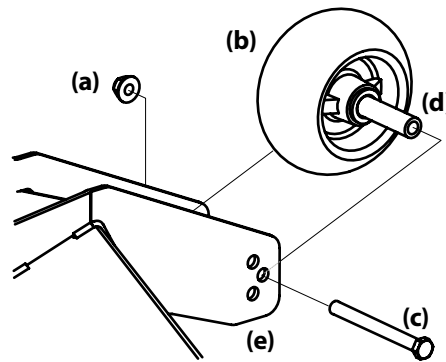

Figure 4-7
2. Remove the lock nut (a) securing one of the front gauge wheel (b) hex screws (c) to the deck. Remove the front gauge wheel (b), hex screw (c) and spacer (d). See Figure 4-7.